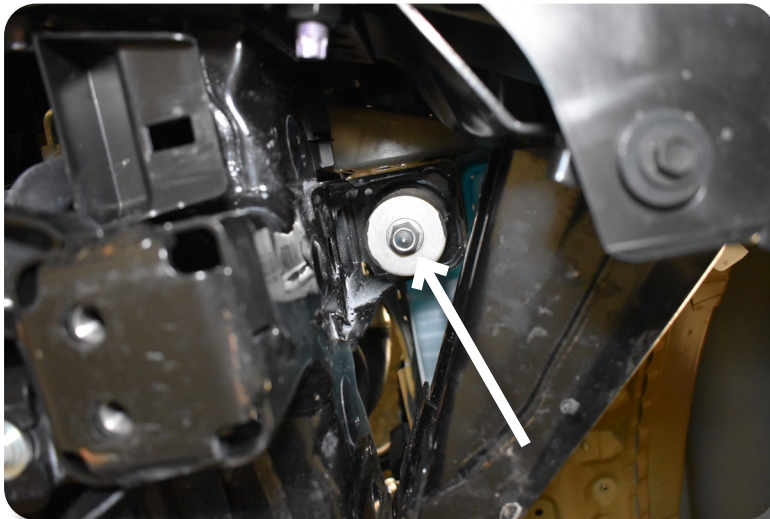

Figure 11
15. Loosen front cab/core support mount bolt but do not remove. Fig. 11